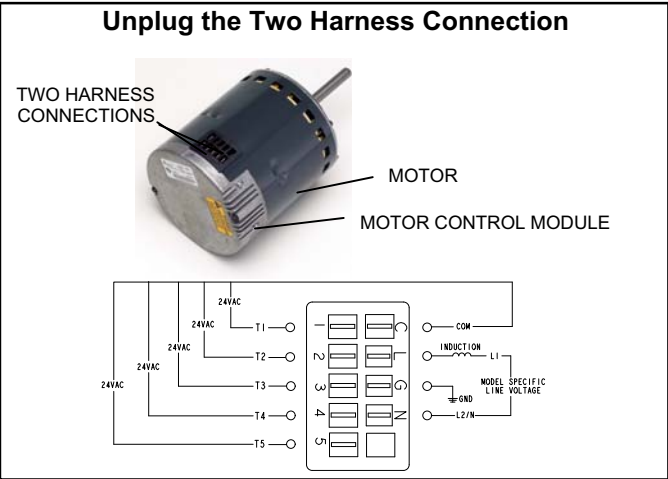

FIGURE 9
- 3. Unplug the **two** harnesses from the motor control module. See figure 9.